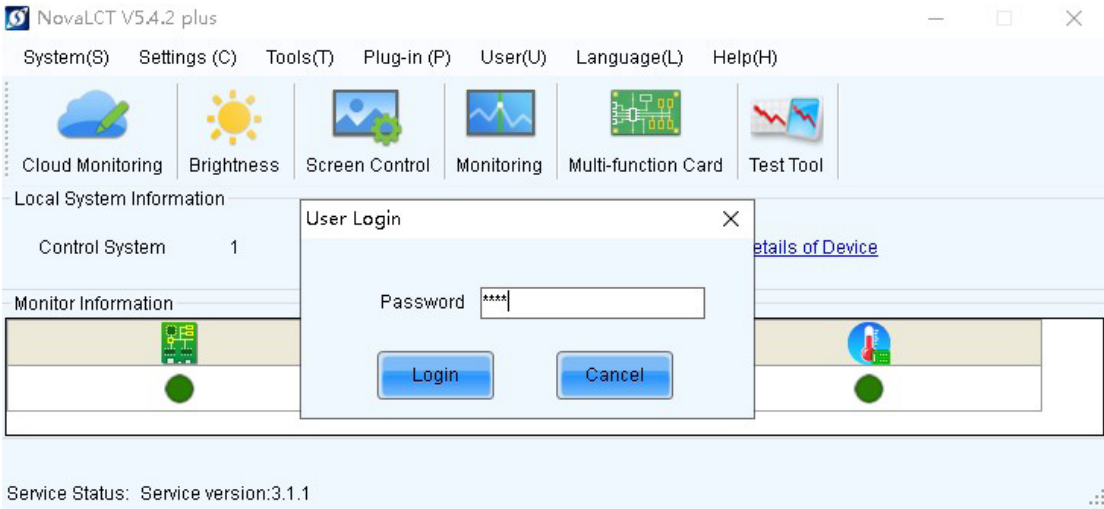

Figure 1-2
- 2. Enter the password and click Login. The default password is admin or 666. See Figure 1-2.